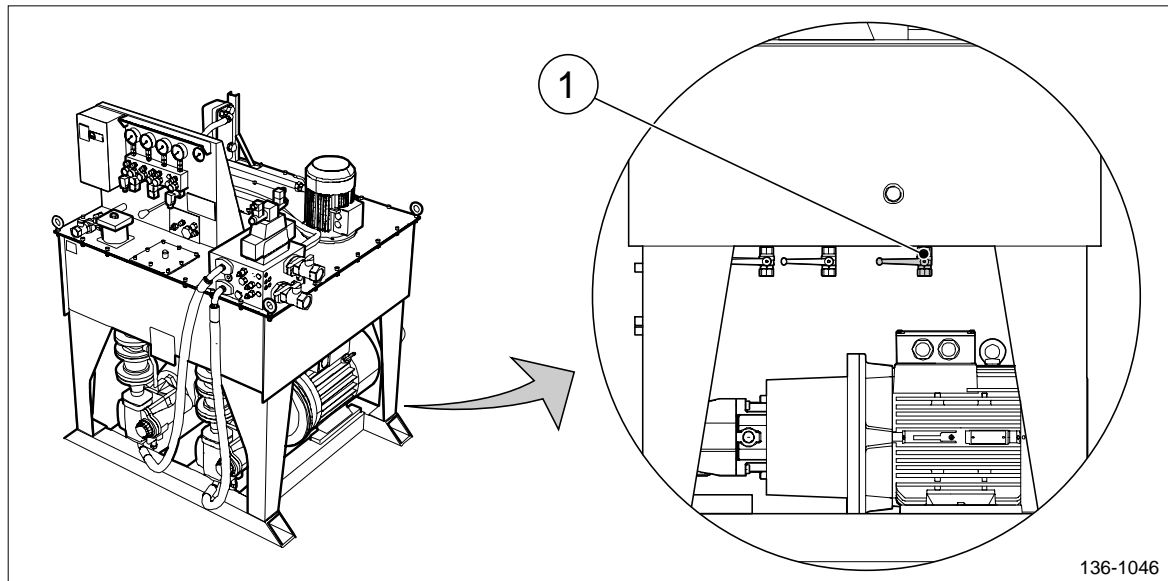

Figure 1 The hydraulic power pack.
1. Locate shut-off valve X3 (see figure 1).